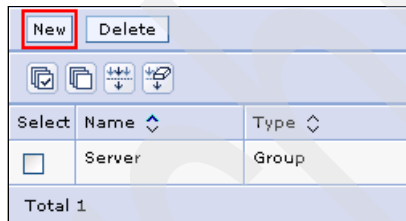

Figure A-48 Creating a new bus connector role for WebSphere Business Monitor
- h. Click the **New** button to add a new user (Figure A-48).